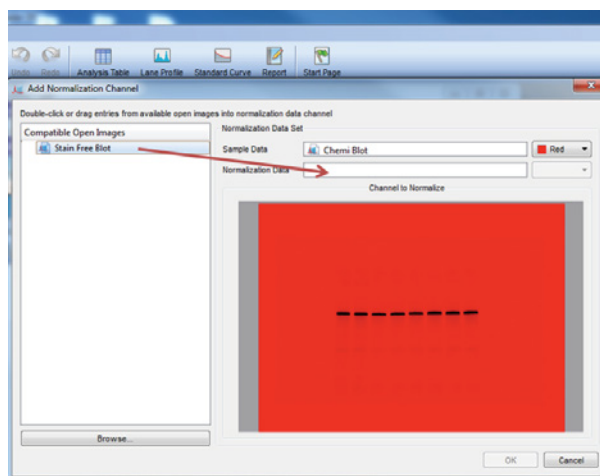

Fig. 3. Create a multichannel image of the stain-free and chemiluminescent blot images.
- Drag the stain-free blot to the Normalization Data channel and click **OK** (Figure 3)